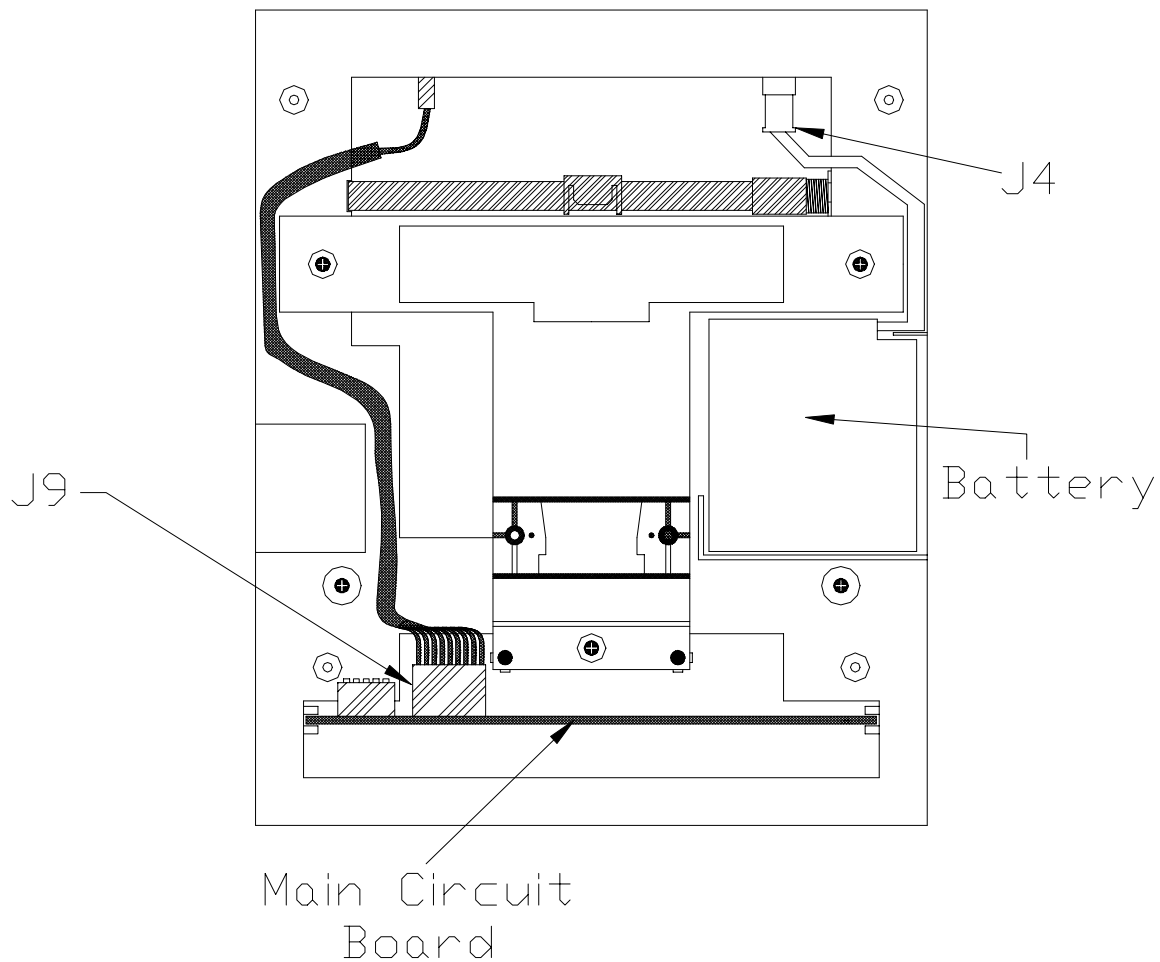

Figure 10.
14. Install the battery into the chassis. Route the cable and attach to J4 on the top panel PCB. See figure 10 on the following page.